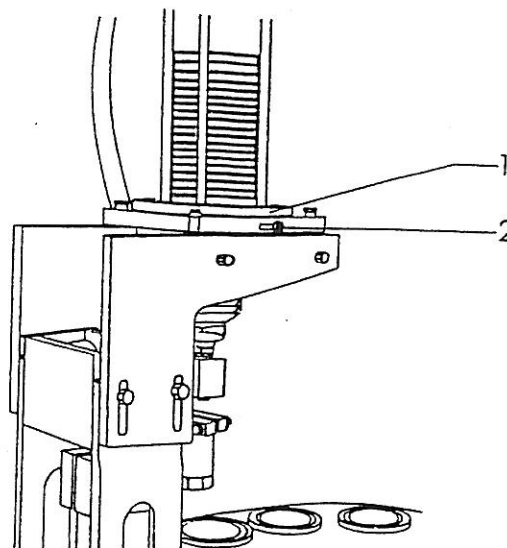

Fig. 10.1.12
- Replace the magazine 2 fig. 10.1.12.
- Replace magazine 1 fig. 10.1.12 with the "push-up" magazine.